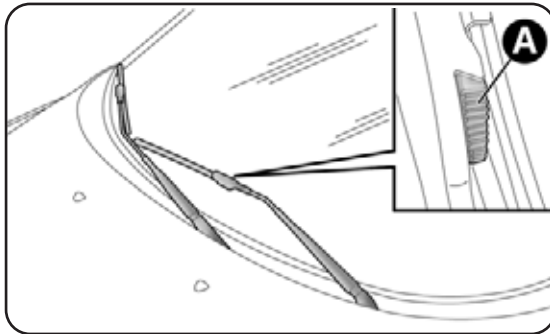

fig. 8
- press tabs (one on each side) A-fig. 8 on the attachment clip and remove the blade from the arm;